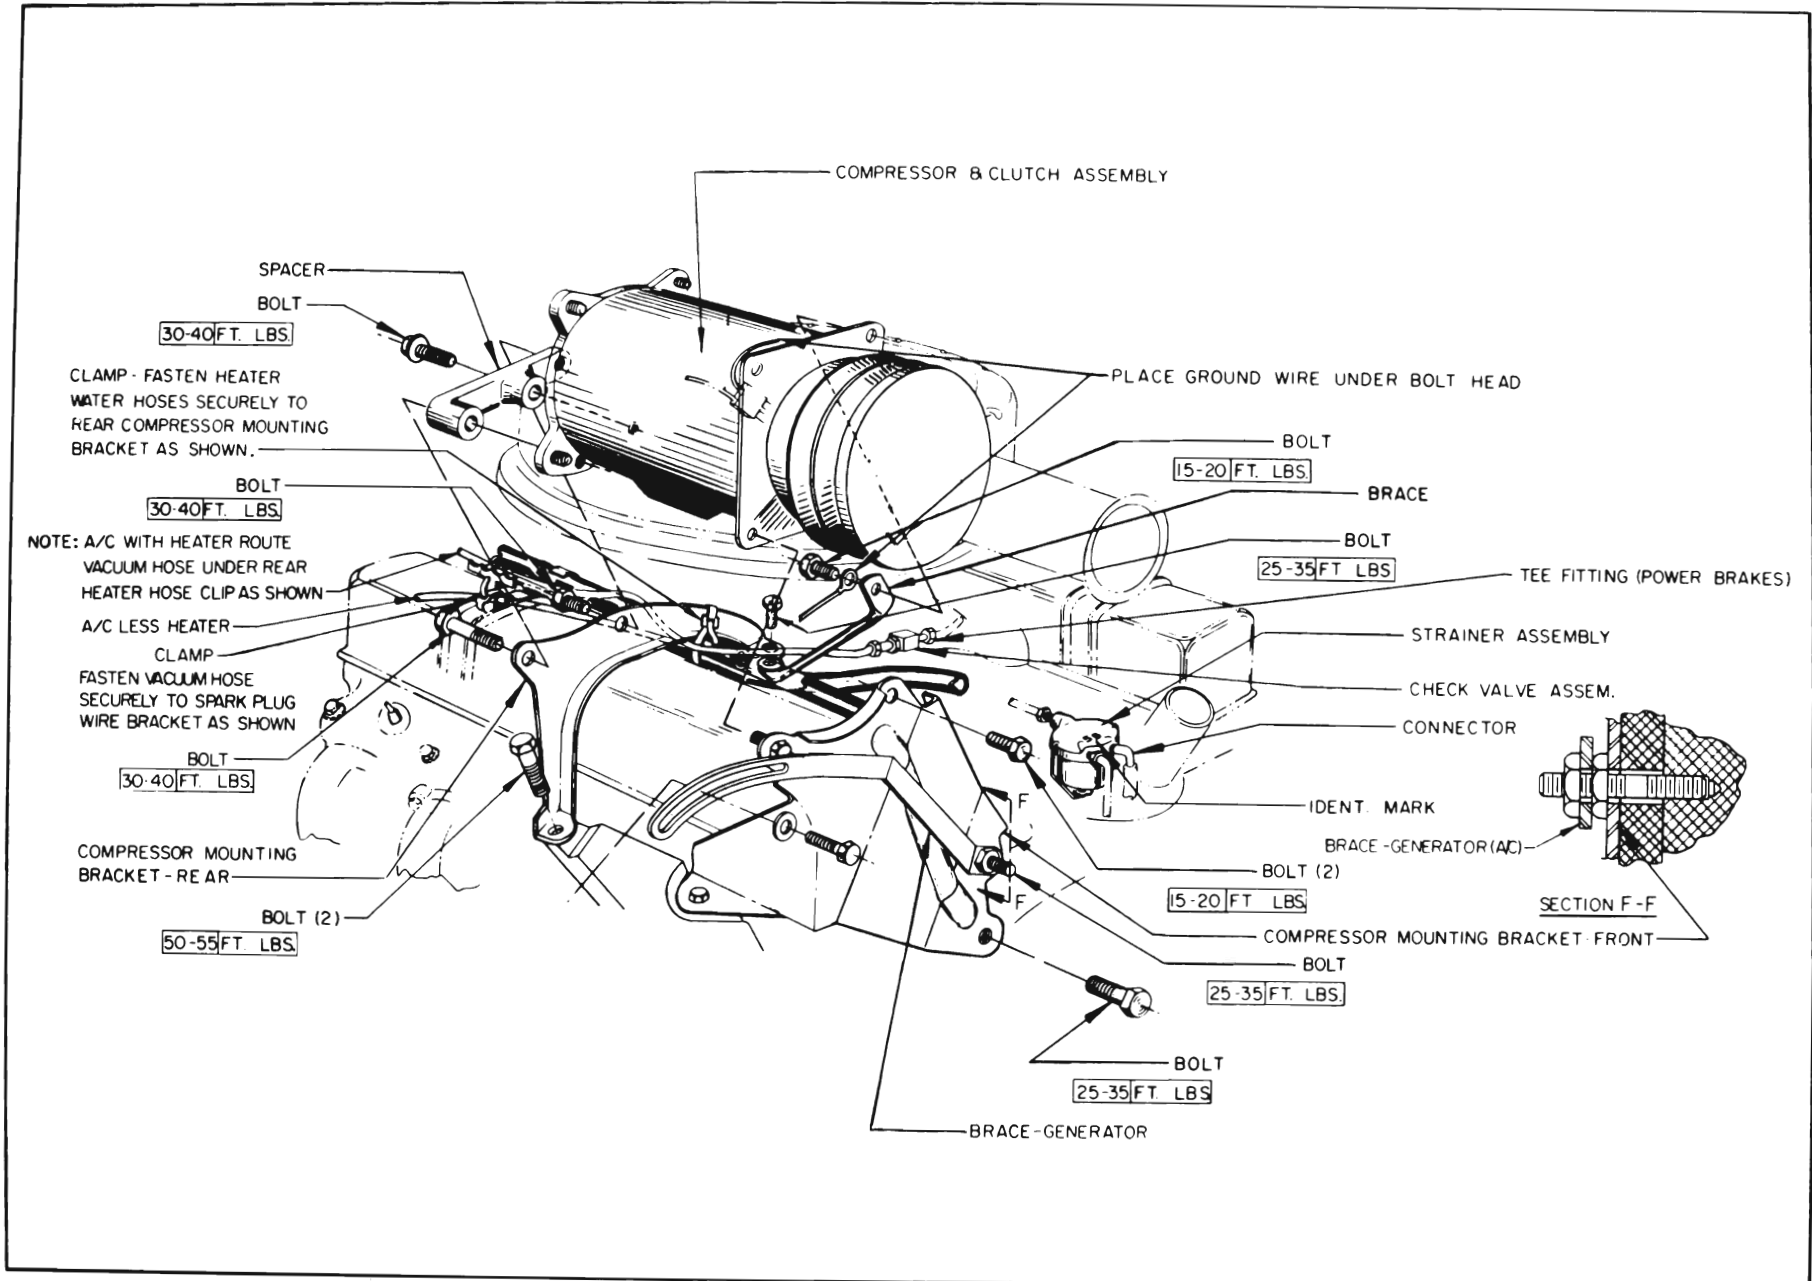

Figure 11-73—Compressor Installation
4. Disconnect clutch coil wire, then loosen the belts and remove compressor from its mounting on engine. See Figure 11-73.